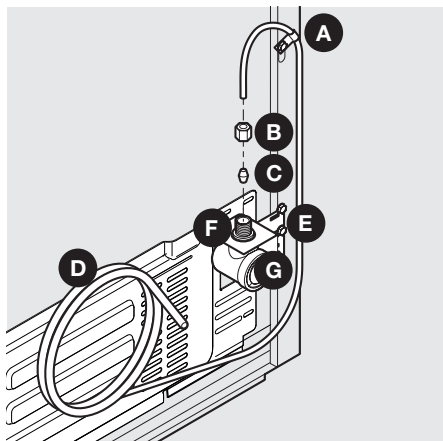

Figure 1
4. **If you use copper tubing** - Slide the brass compression nut, and then the ferrule (sleeve) onto water supply line. Push water supply line into water valve inlet as far as it will go ( $1/4''/6.4\text{ mm}$ ). Slide the ferrule (sleeve) into the valve inlet and finger tighten the compression nut onto the valve. Tighten another half turn with a wrench; **DO NOT** over tighten. See Figure 1.